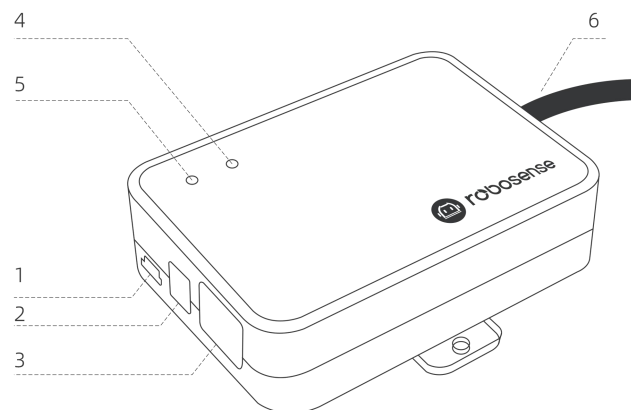

Figure 9 Interface Box Schematic
The Helios 16 accessory interface box is equipped with status indicator lights and various interfaces, as shown in Figure 9 . It can be connected to power input, RJ45 Ethernet port, and GPS input cable (the cable length for the aviation plug version of the interface box is 3 meters; for other cable length requirements, please contact Robosense).
- c) After powering on, under normal working conditions, the red and green power indicator lights on the LiDAR's Interface Box will be constantly on. The positions of the indicator lights are shown in Figure 9 .